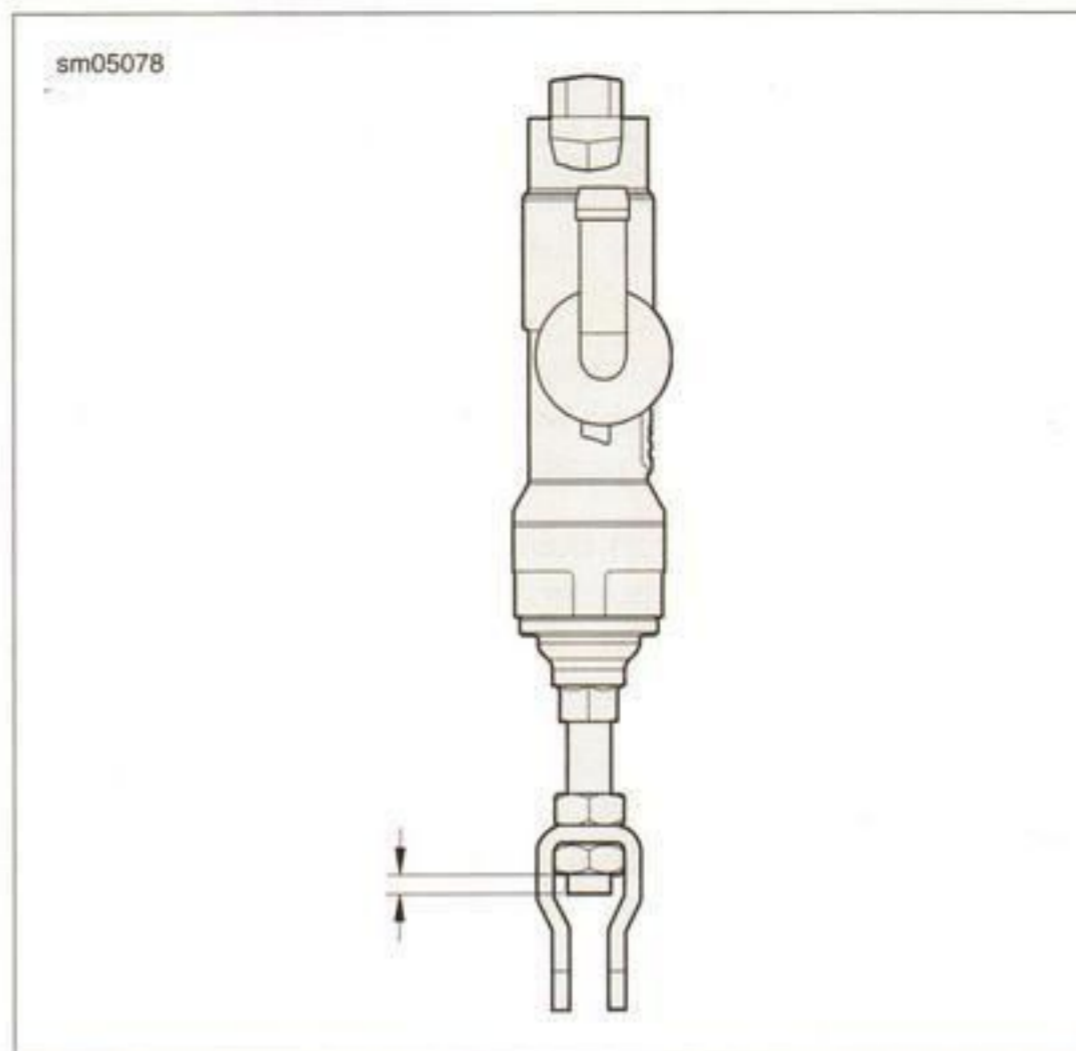

Figure 1-26. 0.76-5.84 mm (0.030-0.230 in) Thread Extension
1. See Figure 1-26. Inspect for minimum and maximum brake rod engagement in brake clevis. Adjust as required.